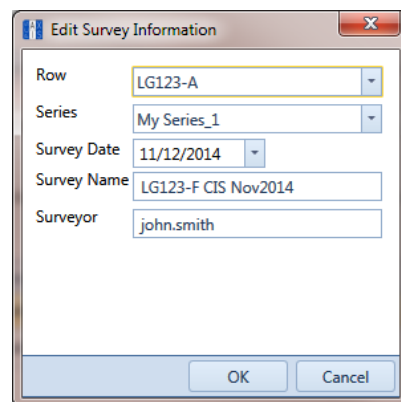

Figure 13-22. Select Facility
- a Click the  pencil button in the *Mark Native* dialog box to open the *Select Facility* dialog box (Figure 13-22).